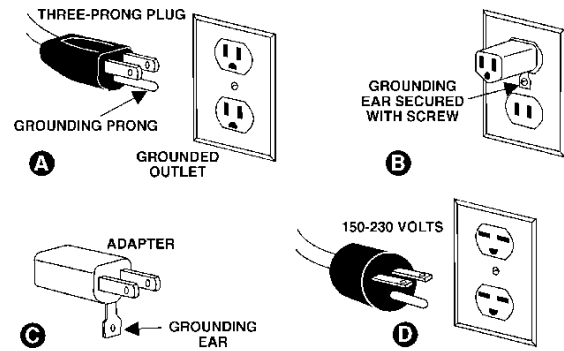

Figure 3
This tool is intended for use on a circuit that has an outlet that looks like the one illustrated in **A**, Figure 3. An adapter, shown in **B** and **C** is not recommended. Provide a properly grounded outlet (A) installed by a qualified electrician. *This adapter is not permitted in Canada.*